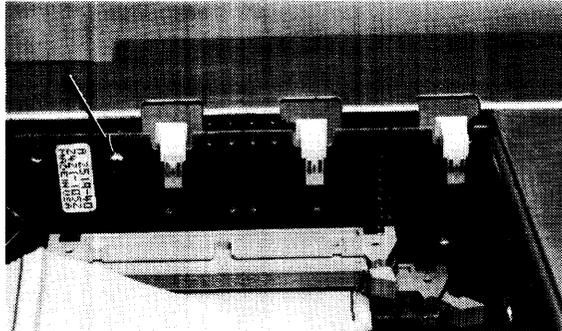

Figure 2-15. Motherboard Screws
2. Remove the screws holding the motherboard to the fan housing, and remove it. Refer to Figure 2-15.